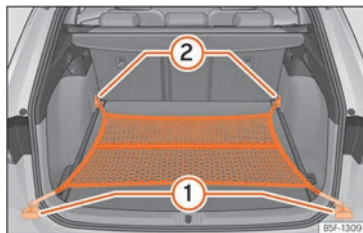

Fig. 188 In the boot: net bag hooked up at floor level.
- Secure the net hooks to the fastening rings >>> Fig. 188 ① and ② >>> ⚠. The bag zip should be facing upwards.